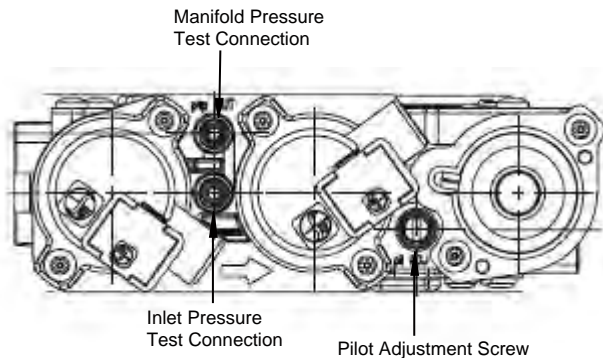

Figure 28. Pilot Adjustment on the SIT Proflame 2 gas valve.
1. **Locate Pilot Adjustment Screw. (See figure 28)**